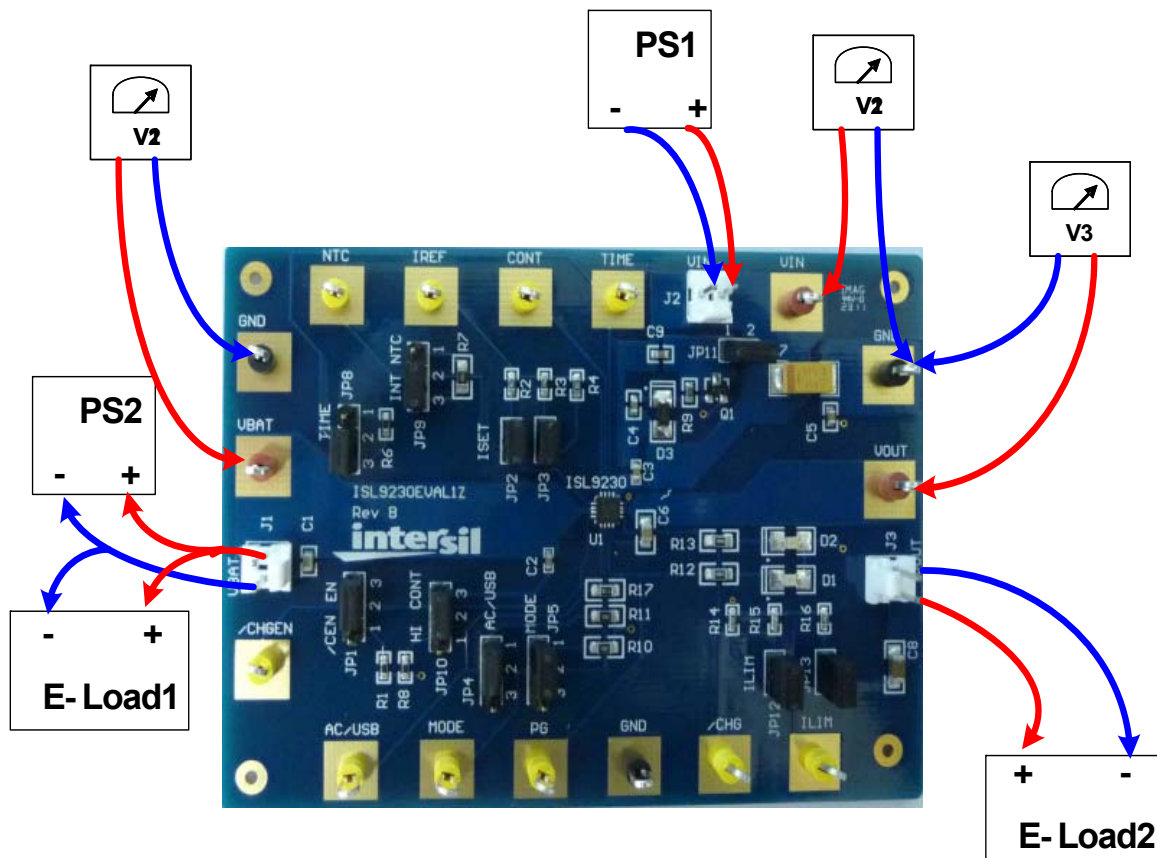

FIGURE 1. CONNECTION OF INSTRUMENTS
Quick Setup Guide (Refer to Figure 1)
- Step 1:** Connect a 5V supply PS1 capable of delivering 1.5A current (see Figure 1)
- Step 2:** Connect a 3.7V supply PS2 with current capability 1.5A (see Figure 1)
- Step 3:** Connect voltmeters V1, V2 and V3 to monitor VIN, VBAT and VOUT (see Figure 1)
- Step 4:** Connect a 2nd DC electronic load at CC mode, E-load 2 (see Figure 1)